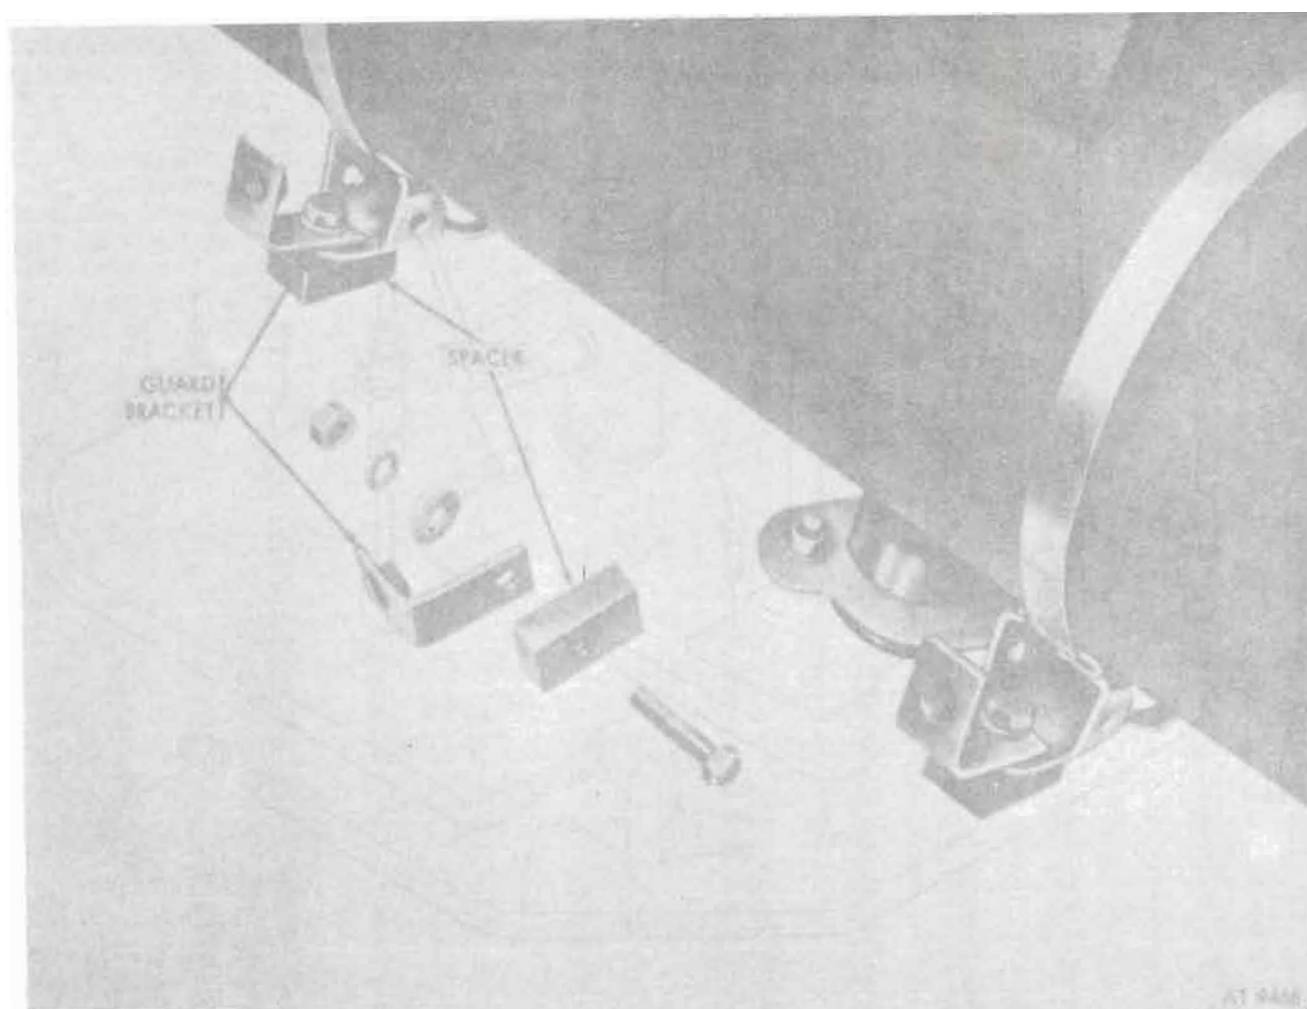

Figure 18-31. Heater mounting.
(1) Loosen heater mounting straps.
(2) Position heater assembly to floor panel with heater mounting holes in line with floor panel mounting holes and exhaust pipe inserted into diverter assembly. Install spacer under each of four heater mounting points with offset portion square with ends of mounting bracket (fig. 18-31).
(3) Remove undercoating from bottom of floor panel 1/2 inch around right front mounting hole.
(4) Position four guard mounting brackets with flat surface parallel to side of heater, and with long end on heater mounting bracket (fig. 18-31).
(5) Install four $\frac{1}{4}$ -20x7/8 screws through brackets, spacers, and floor panel (fig. 18-31).
(6) Install one flat washer (MS45904-68) on right front mounting screw, and secure with hex nut. Do not tighten.
(7) Install three flat washers, lockwashers, and nuts on the remaining mounting screws (fig. 18-31). Do not tighten right rear screw.
(8) Tighten heater mounting straps and exhaust diverter mounting nuts.
(9) Attach diverter mounting bracket to floor panel using one screw, flat washers, lockwasher, and nut.